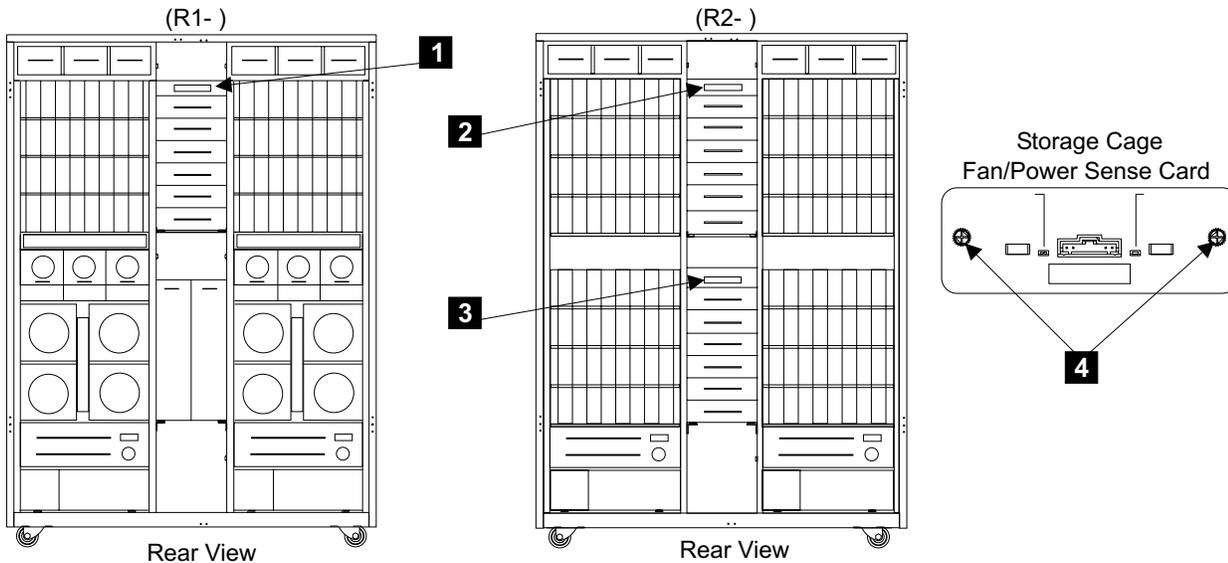

Figure 92. Storage Cage Fan/Power Sense Card Locations (S008086m)
5. Locate the storage cage fan/power sense card, **1**, **2**, or **3** in Figure 92 on page 84, mounted just above the top storage cage power supply you just unplugged.